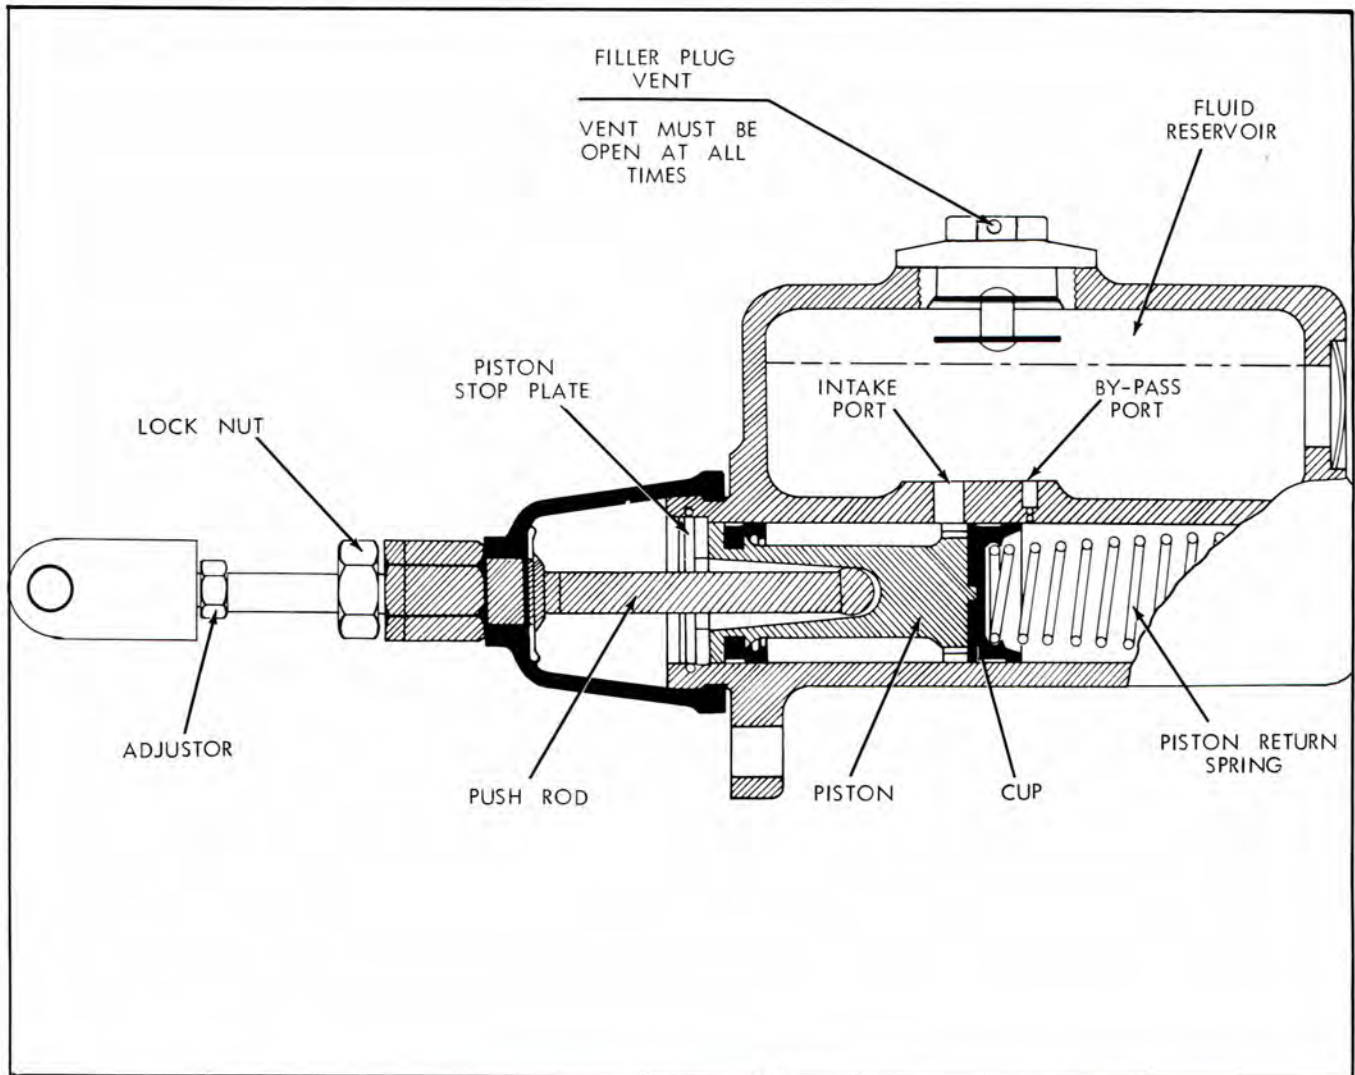

Figure 303a. Brake Pedal Adjustment
1. Loosen lock nut, see Figure 303a.
Check cap vent hole for obstruction. Vent hole must be open at all times. Clean if necessary, see Figure 303a.